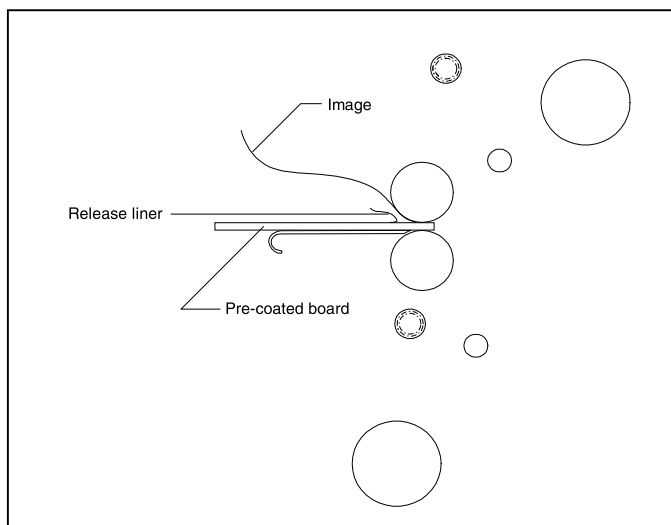

Fig. 30
#### TIPS FOR MOUNTING PRE-COATED BOARDS (Figure 30)
1. Load the laminator as illustrated in Figure 30.